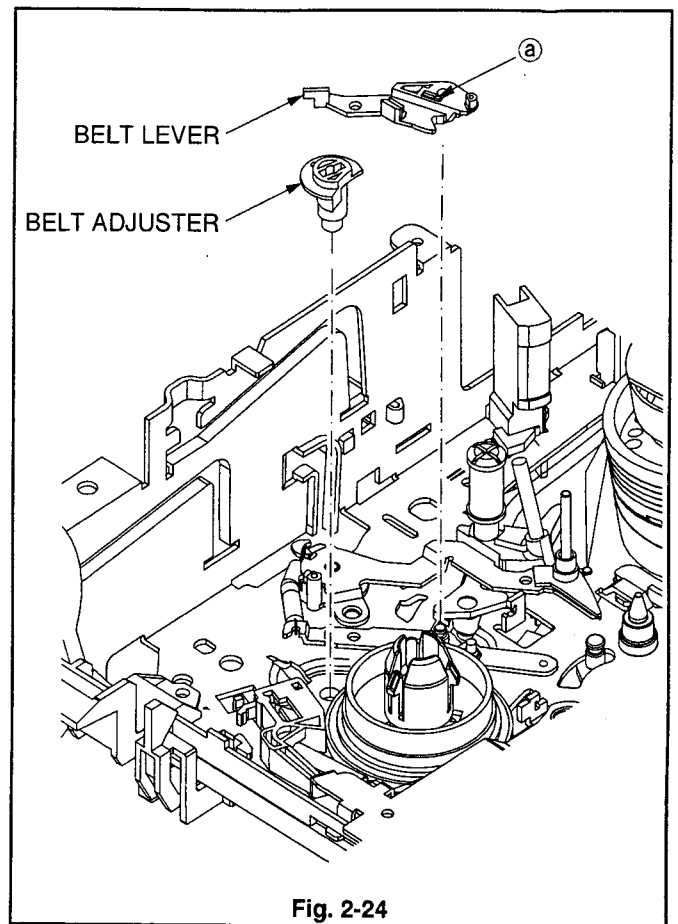

Fig. 2-24
1. Release the catch (a) of the BELT LEVER shown in the Fig. 2-24 to remove the BELT LEVER.
2. Remove the BELT ADJUSTER shown in the Fig. 2-24.
1. Install the BELT ADJUSTER shown in the Fig. 2-24.
2. Install the BELT LEVER shown in the Fig. 2-24.